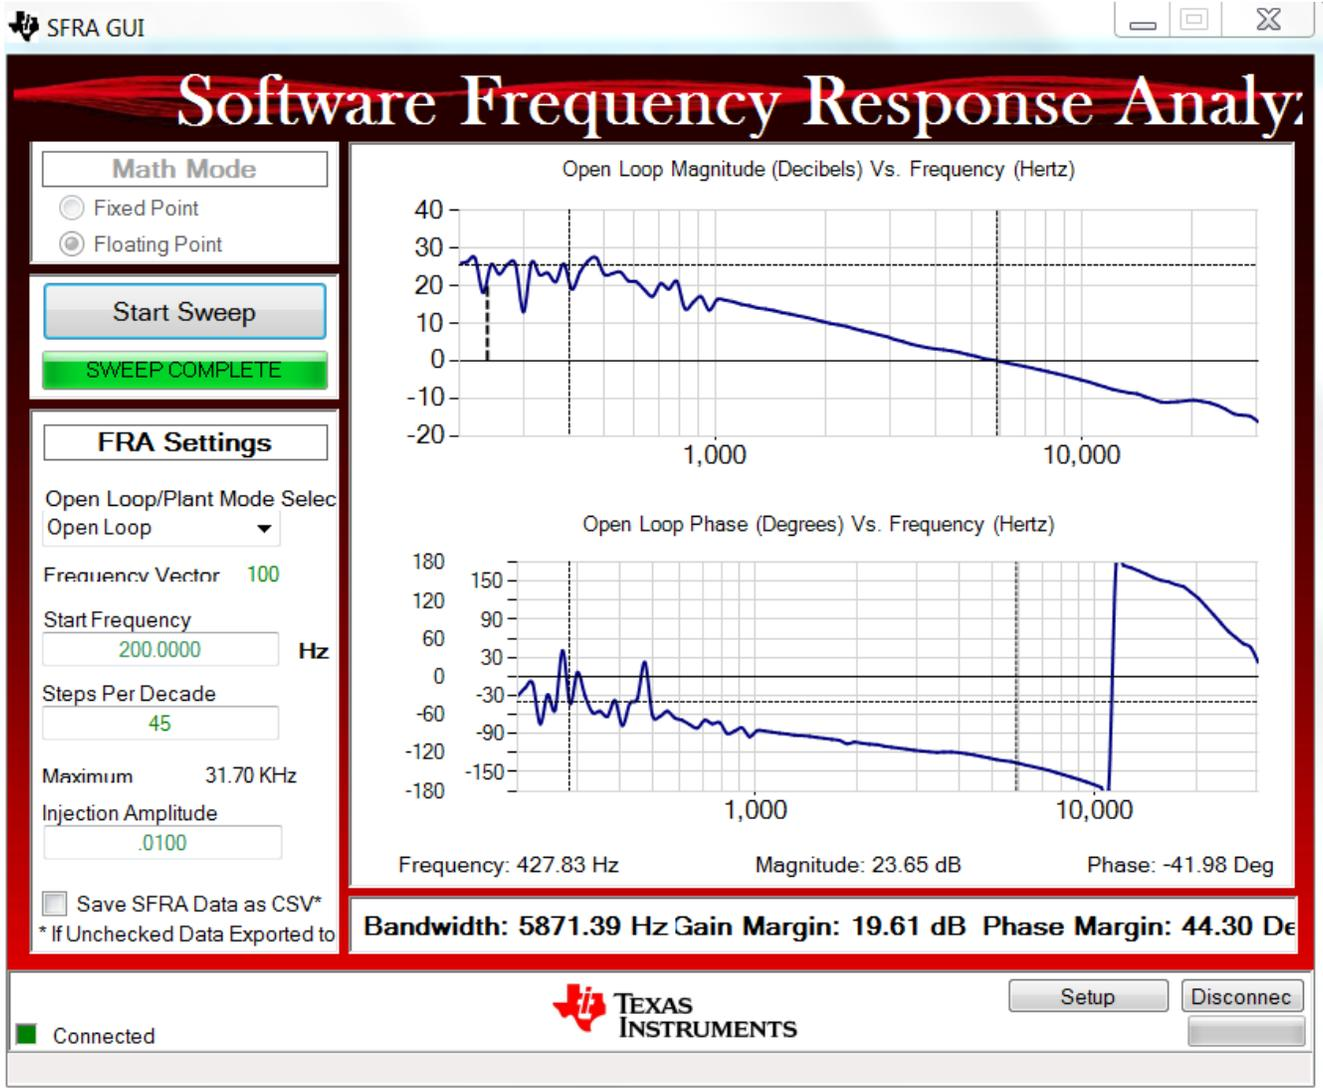

Figure 3-24. SFRA Run, Closed Current Loop, Open Loop Gain
- The SFRA GUI connects to the device. A SFRA sweep can now be started by clicking *Start Sweep*. The complete SFRA sweep takes a few minutes to finish. Activity can be monitored by seeing the progress bar on the SFRA GUI and also checking the flashing of blue LED on the back on the control card that indicates UART activity. Once complete, a graph with the open loop plot appears, Figure 3-24. This is similar to the plot seen under DC conditions; however, some additional noise is visible due to AC harmonic frequencies close to the measured frequencies. The BW, PM, and GM numbers are very similar to the DC case. Note the graph shown in Figure 3-24 was taken with direct grid AC input. When using AC source interaction of the AC source output, impedance can be observed, which can affect the control margins.